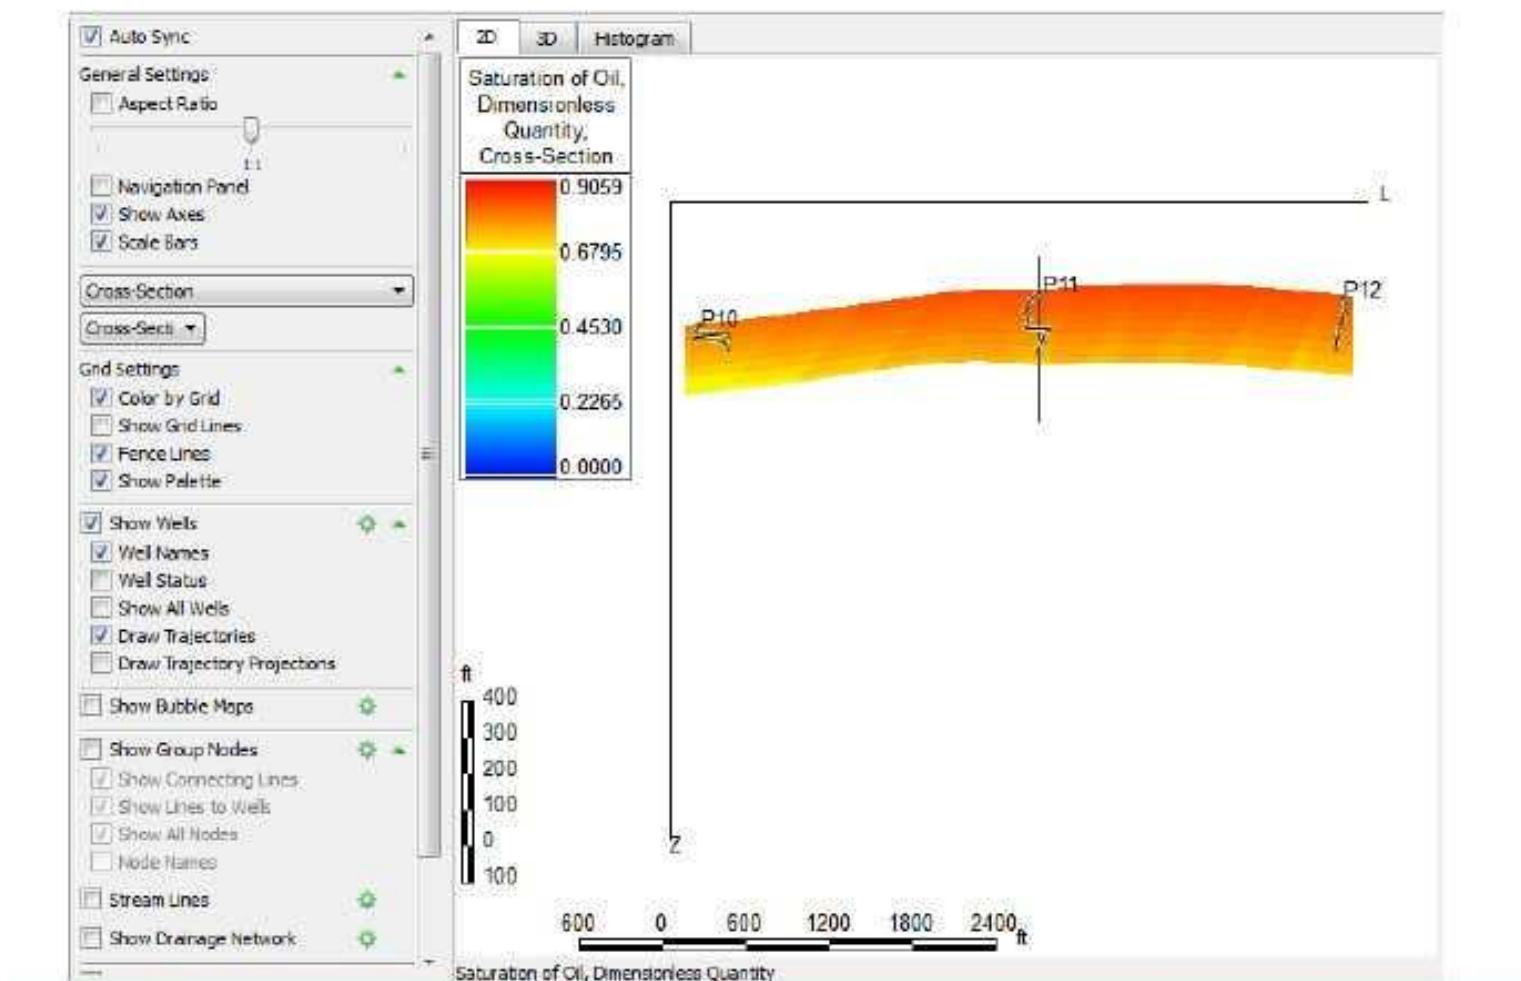

Figure 35. A multi-well fence in 2D.
9. **Fence Lines** is checked – figure 35. If this option is unchecked the vertical lines, corresponding to the fence points of cross-section, will be hidden.